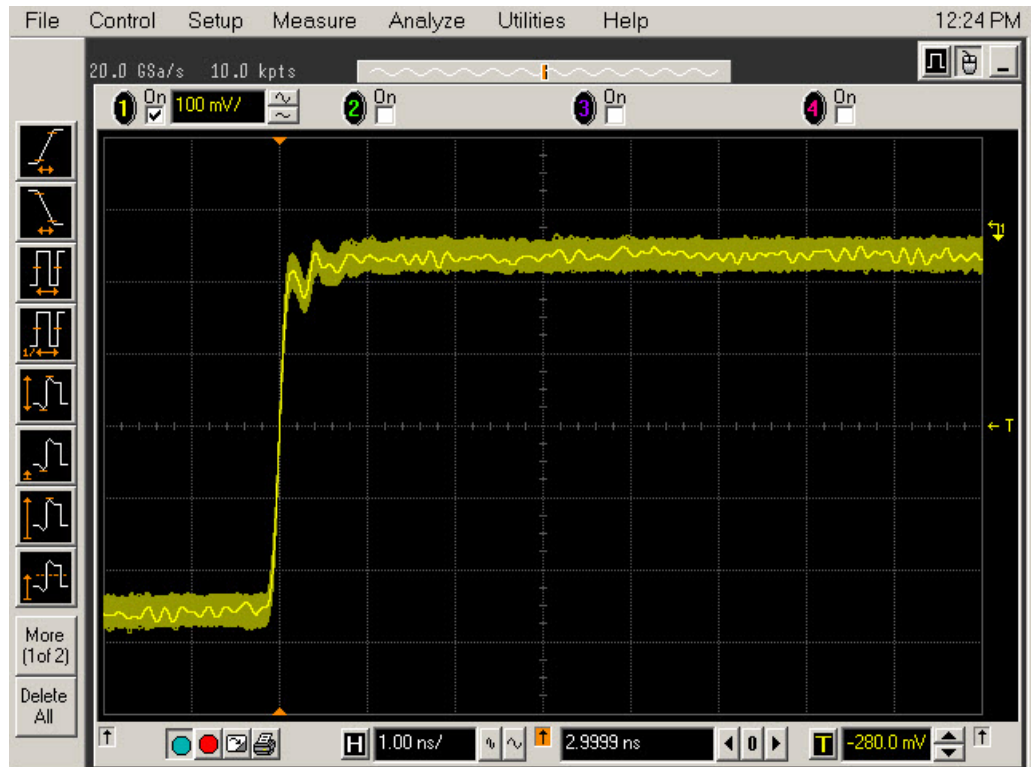

Figure 45 Good Connection Waveform Example
- 4 Set the horizontal position to approximately 3 ns. You should see a waveform similar to that in Figure 45 below.